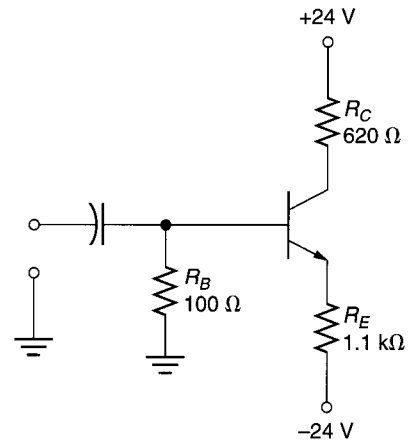

FIGURE 7.46
52. The 2N3904 transistor cannot be used in the circuit shown in Figure 7.46. Why not? (Hint: Consider the dc load line for the amplifier and the maximum ratings shown in the 2N3904 spec sheet in Section 6.5.)